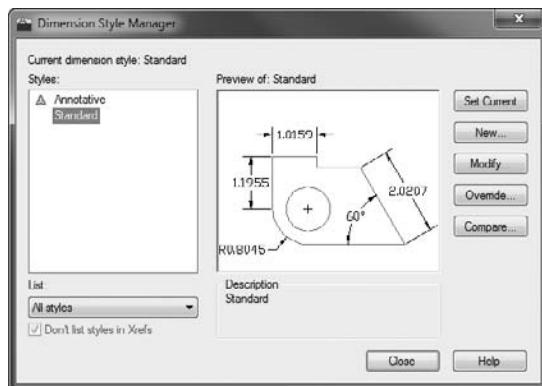

FIGURE 12.3 The Dimension Style Manager dialog box
1. Click the Dimension, Dimension Style button, the small arrow on the bottom-right end of the Dimensions panel on the Annotate tab, to open the Dimension Style Manager dialog box (see Figure 12.3).